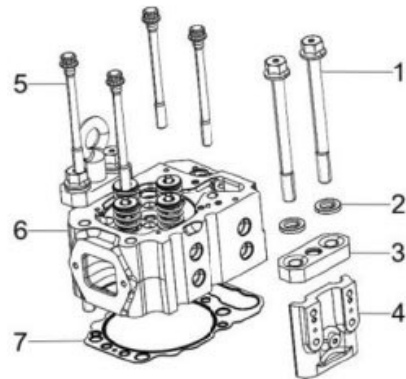

Figure 73. Cylinder Head Assembly
1. Carefully clean both the combustion surface of the cylinder head and the top surface of the cylinder block. Then place a new cylinder head gasket (Figure 73, Item 7) on the cylinder block.
2. Position the cylinder head (Figure 73, Item 6) on the cylinder head gasket.
3. Lightly oil the threads and shoulder of the cylinder head main bolts (Figure 73, Item 5) and cylinder head secondary bolts (Figure 73, Item 1). Lightly oil the clamping block (Figure 73, Item 3) and end plate (Figure 73, Item 4) and insert.